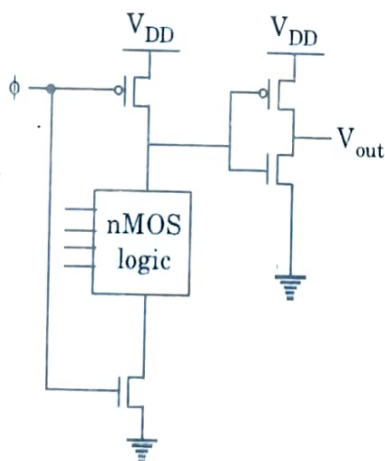

Fig. 3.8.1.
1. The generalized circuit diagrams of domino CMOS logic gate is shown in Fig. 3.8.1. The additional inverter allows us to operate a number of such structures in cascade.